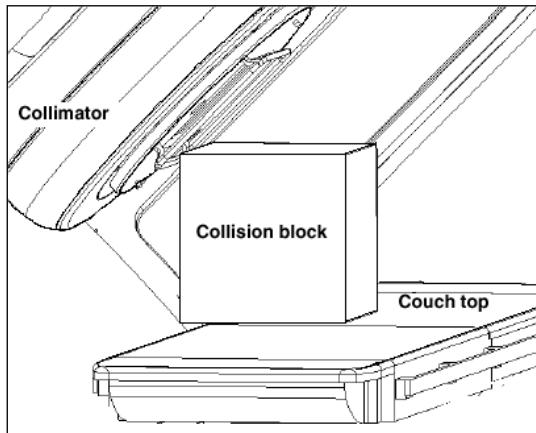

Figure 31: Collision Block Test
2. Place provided foam collision block on couch top in a position that will cause the collimator to hit the block before it hits any portion of the couch (Figure 31).